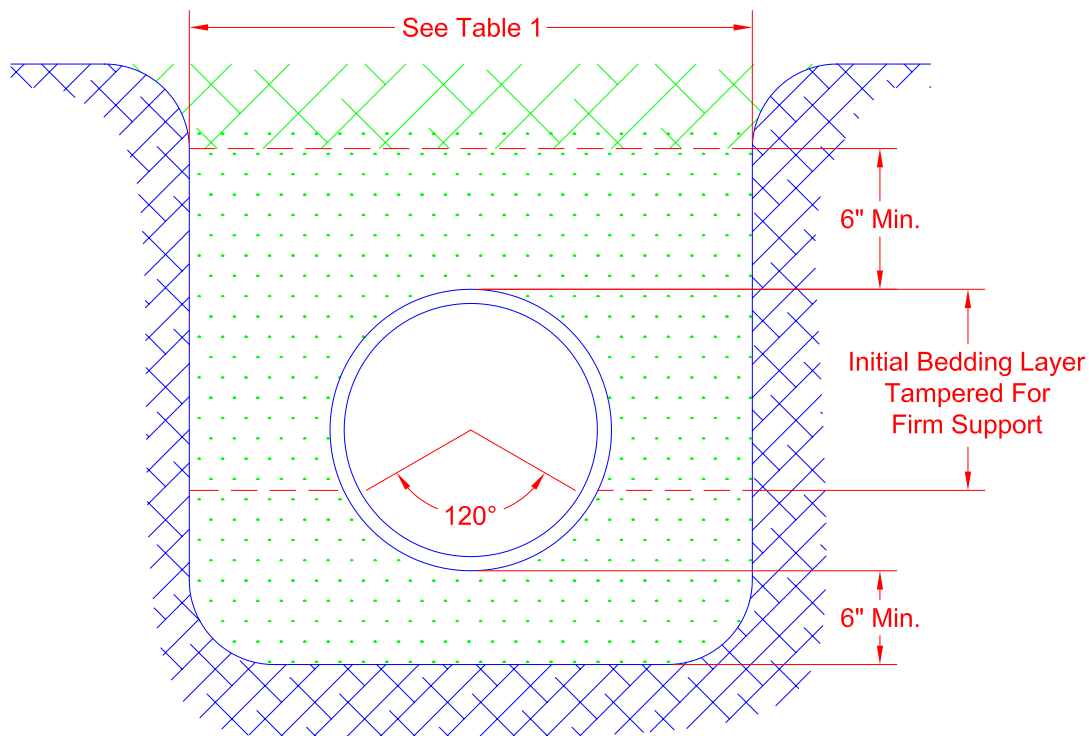

Fig. 4 – Standard Conditions – Firm or Hard Soils Typical Class “B” Bedding.
- A. The trench bottom is the first element of the pipe support system. This surface shall either be shaped by hand to conform to the bottom $\frac{1}{4}$ pipe diameter or, if flat, the bedding material carefully placed and tamped by hand to ensure complete pipe support (see Fig. 4 and 4A).